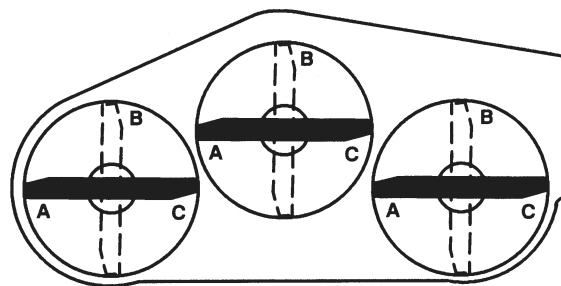

Figure 21
5. Position all three blades in the “A” position (Fig. 21) and measure from level surface to the bottom of the tip end of each blade (Fig. 22).
6. Note measurement attained at “A”, rotate blades to the “B” position (Fig. 21), measure distance of all blades to level surface and note dimensions (Fig. 22).
7. Rotate blades to the “C” position, measure and note distance measured (Fig. 21, 22).